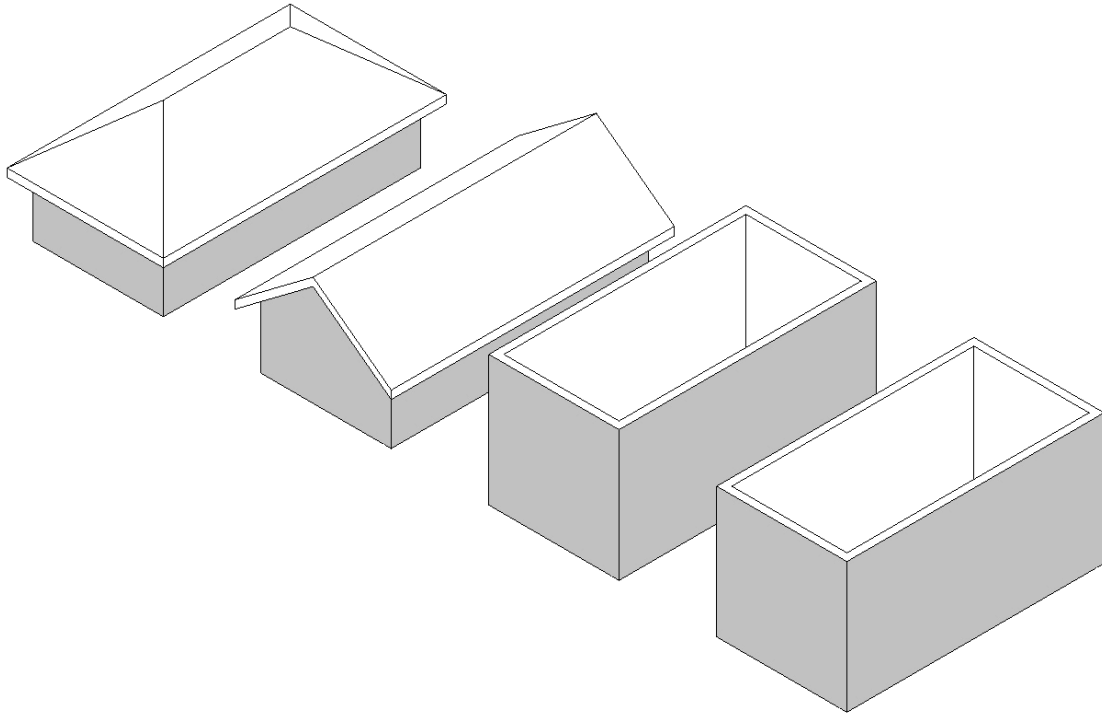

Figure 7-1.7 3D view – Gable roof
25. Switch to the **3D** view (Figure 7-1.7).